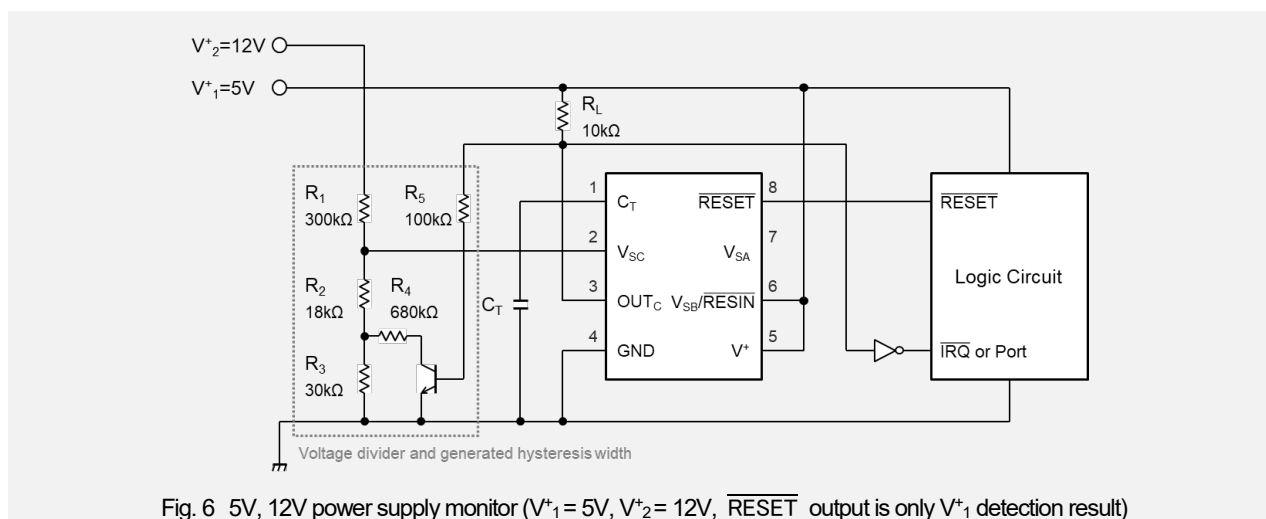

Fig. 6 5V, 12V power supply monitor ($V^+_1 = 5V$, $V^+_2 = 12V$, $\overline{RESET}$ output is only V^+_1 detection result)
- V_{d2}^+ detection voltage (falling) and hysteresis width at rising are calculated as following formula. In case of resistor value in Fig.6, the detection voltage (falling) is about 9.0 V and the hysteresis width at rising is about 0.2 V